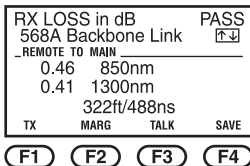

Figure 5-11. Autotest RX Loss screen.
2. Press the **F1** button to display the Autotest RX Loss screen. This screen displays the loss in dB at both wavelengths for the cable connected to the Main Unit's RX port. It also shows measured length and propagation delay. See Figure 5-11.